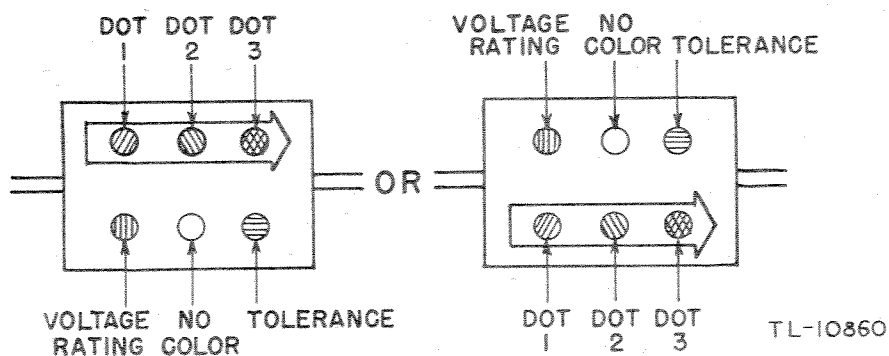

Figure 9. Molded-mica capacitors, three-dot color code.
a. The Three-dot Color Code for Mica Capacitors. (1) This code is gradually being replaced by more involved codes. The basis of this code (fig. 9) is a series of three colored dots which indicate the capacitance in micromicrofarads. Two auxiliary colored dots indicating the voltage rating and the capacitance tolerance are sometimes added. Usually an arrow is molded or stamped on the case of the capacitor to indicate the sequence in which the dots are to be read. Dots 1 and 2 show the first two digits of the capacitance in micromicrofarads, while dot 3 indicates the decimal multiplier to be used. As an example, a 0.006-microfarad capacitor (6,000 micromicrofarads) is marked by the three dots in sequence, as follows:
(2) When the dot indicating tolerance is used, it is usually located above or below the third (decimal multiplier) dot. The color of the tolerance dot corresponds to tolerance between plus or minus 1 percent and plus or minus 20 percent. For example: a green tolerance dot is used on capacitors having a tolerance of plus or minus 5 percent (fig. 9).
(3) When the voltage dot is used, it is located above or below the first (first digit) dot. According to the code of figure 9, the various colors denote the d-c working voltage.
(4) Both of the auxiliary dots are omitted for capacitors having a tolerance